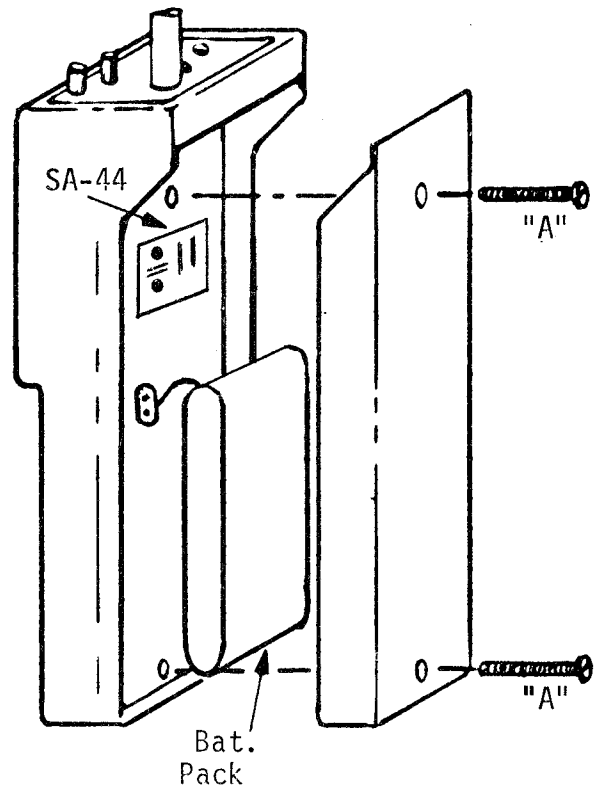

Figure 2-1. Unit Rear View
Remove plastic BACK cover from transceiver in order to install batteries. This cover is easily removed as follows (see Figure 2-1):
2. Remove two #4-40 x 1" pan-head machine screws which secure back cover to transceiver (item "A" Fig. 2-1).